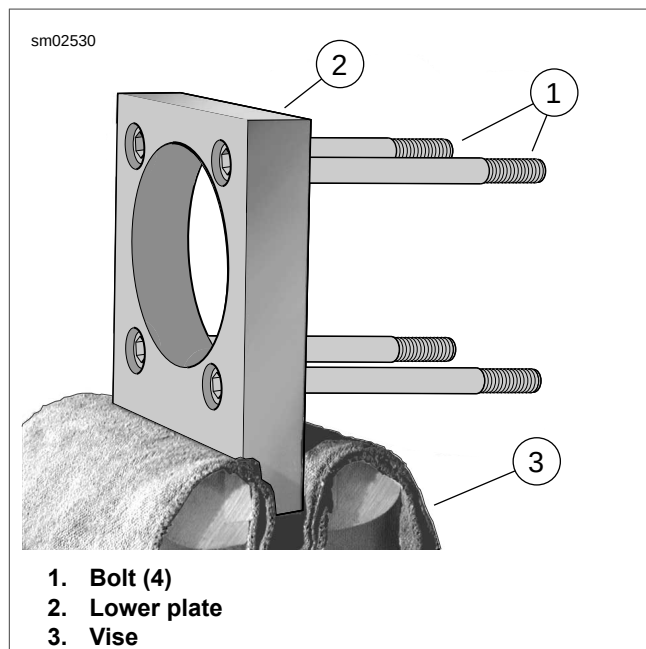
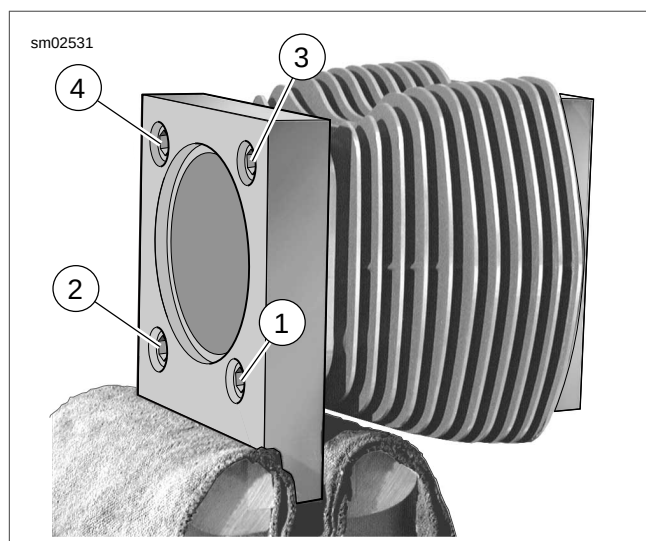

Figure 3-59. Attaching Cylinder Torque Plates
Figure 3-60. Cylinder Torque Plate Bolt Sequence
- b. See Figure 3-59. Clamp the stepped side of the lower plate in a vise with soft jaws.
- c. Lightly oil threads and shoulders of four bolts (1) with clean engine oil and slide through holes of lower plate (2).
- e. Place a used head gasket on cylinder and install upper plate with blind holes aligned with dowel pins in cylinder. Secure with bolts (1).
- f. See Figure 3-60. Tighten the bolts to 120-144 in-lbs (13.6-16.3 Nm) in the sequence shown.